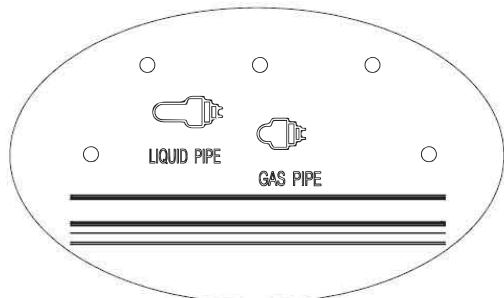
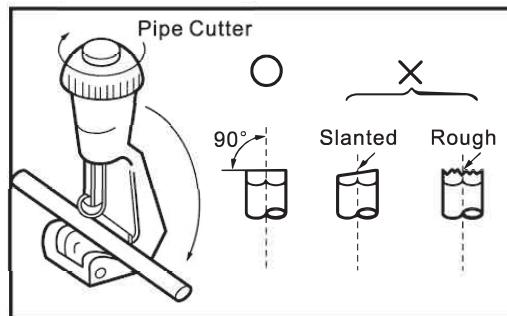

Fig. 4
Fig. 5
1) Cut the liquid pipe and gas pipe to the right length according to the position mark on the wall mounting plate (Fig. 4). Ensure that the cut is flat (Fig. 5).